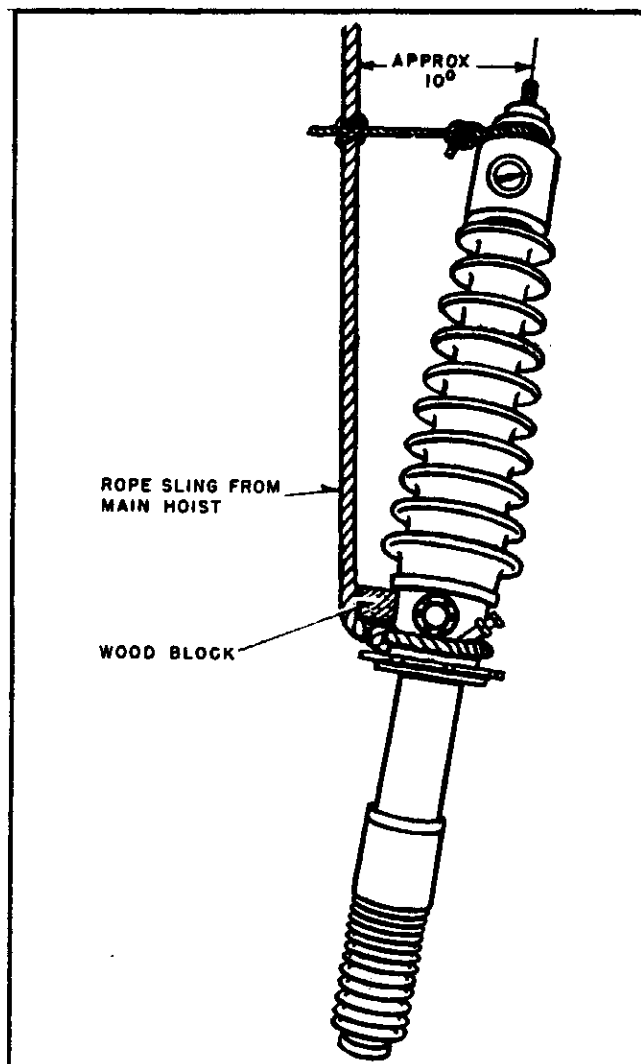

FIG. 6 - Method of Suspending a Condenser Bushing at Proper Angle for Inserting into Tank Top
A suggested method for convenient handling of the condenser bushings when placing them in position in the tank tops is illustrated in Fig. 6. The bushing is raised by means of a cable or rope sling placed around the flange below the upper porcelain fitting, and an additional short sling looped around the top cap. The bushing should hang about 11.0 degrees from vertical.
2. Lower the bushing into place as shown in Fig. 6 with eccentrics located as in Fig. 7B. When positioning the bushing be sure that the potential device receptacles face away from the center of the breaker. The bushing must be lowered with care in order to avoid damaging either the inside of the current transformer or the lower insulator on the bushing itself. It is advisable to wrap a large sheet of fish paper, gasket material, or equivalent around the lower insulator to prevent damage.